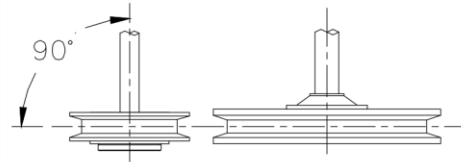

Figure 9
4. To align belt, lay a straight edge against the face of the flywheel touching the rim at two places. (Figure 9)